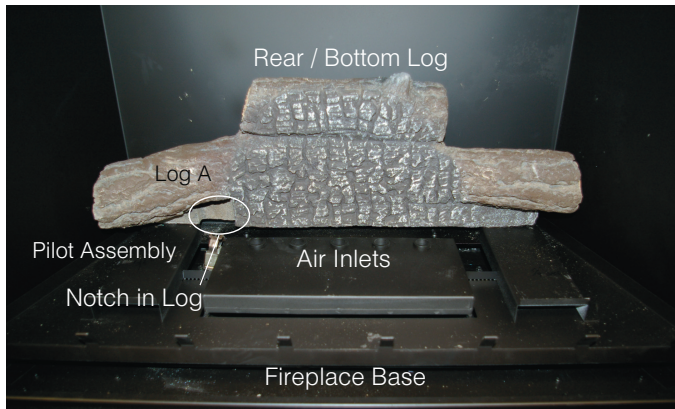

Figure 27a. Bottom Rear Log, (Log A).
Step 2. Place the bottom Rear log (Log A) as shown in **figure 27a**.